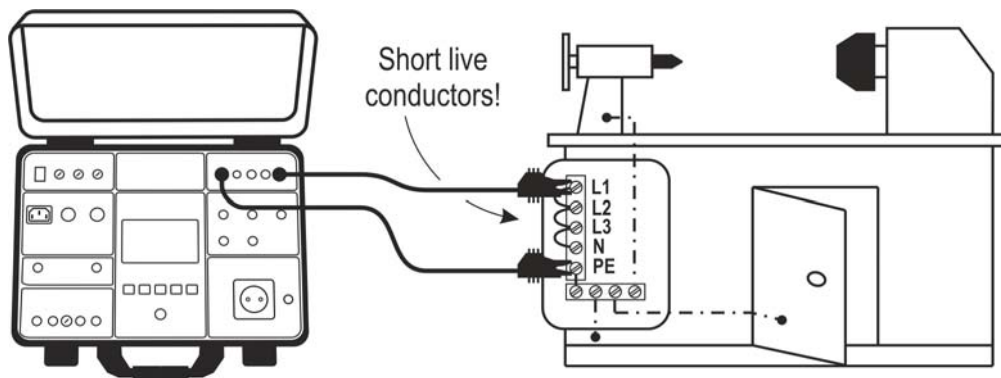

Figure 17: Connection of test leads
- 9) Test result will be displayed in green colour equipped with green  symbol and with beep-beep sound if it is within limit range, see the table of allowed trip out times below. If the result is out of limit range, then it will be displayed in red colour equipped with red  symbol and with longer beep sound. See the display outlook with test result on the figure 17.